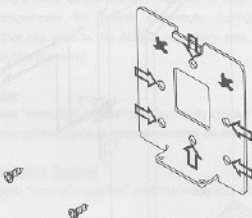

Fig. 5. Installing the back-plate
- Prepare mounting holes for at least 2-4 screws that will hold the Terminal on the wall (4 screws recommended). AC903 is mounted on the wall using its metal back-plate. Back-plate has 8 mounting holes of which 6 are available for mounting purposes (pointer at by ⇨ on Fig. 5).